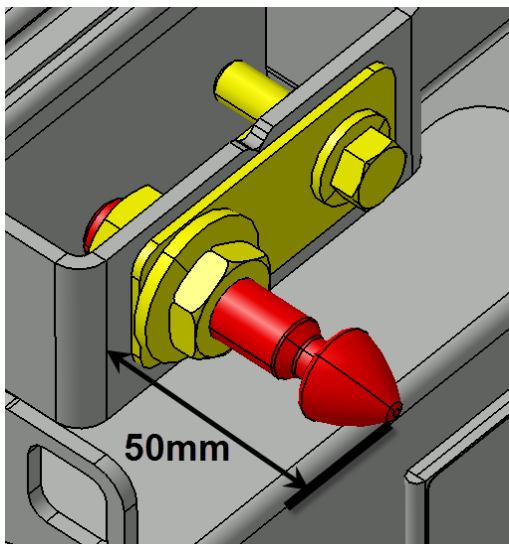

FIGURE 115
11. Before adjusting the pin, make sure that it doesn't exceed more than 2" (50mm) at the first closing of the door (FIGURE 115). Damage to the door can result if this condition is not respected.